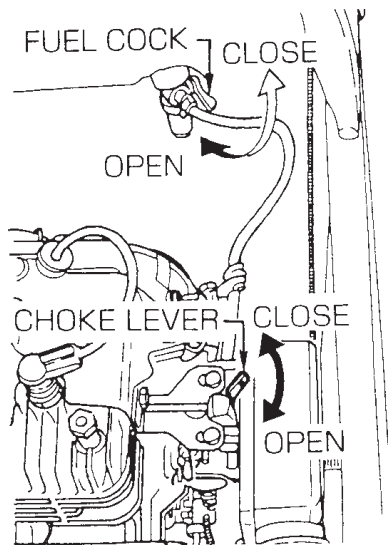

Figure 4. Fuel Cock and Choke Lever
1. Open the fuel shut-off valve by moving the **fuel cock** lever to the **open** position (Figure 4).
3. Close the choke lever (Figure 4). Turning the choke lever 90 degrees clockwise closes the choke. In cold weather, start the unit with choke fully closed. In warm weather or when the engine is warm, the unit can be started with choke halfway or completely open.
6. If engine fails to start, move the choke lever (Figure 4) to the half open position to avoid flooding.
- Close the fuel shut-off valve by moving the fuel cock lever to the **CLOSED** position. See Figure 4.